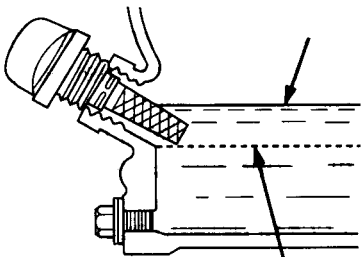

Figure 5. Oil Level
4. If the oil level is low (Figure 5), fill to the edge of the oil filler hole with the recommended oil type (Table 3). Maximum oil capacity is 3.52 pints.